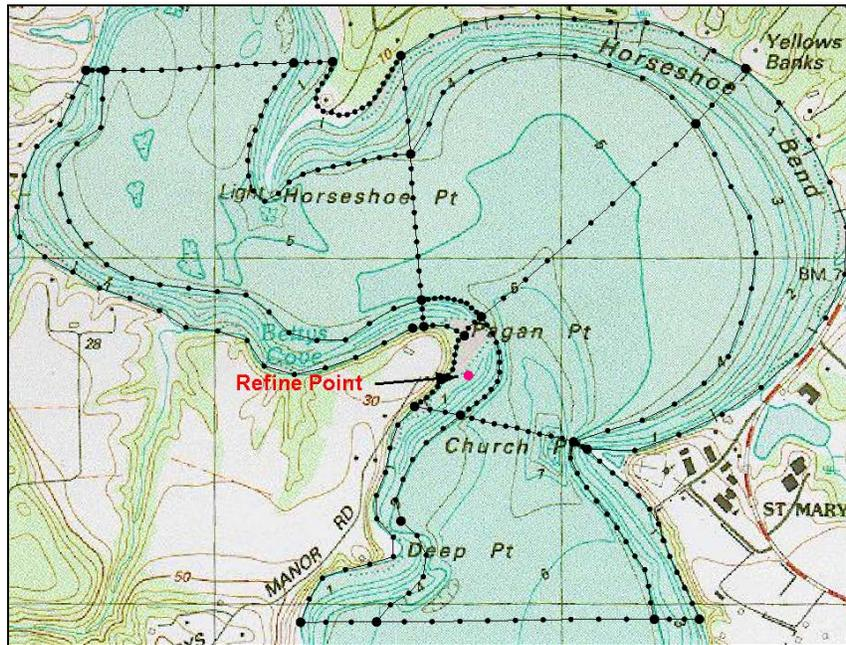

Figure 7 The location of the refine point.
2. Double-click on the point inside the left polygon, labeled in Figure 7.